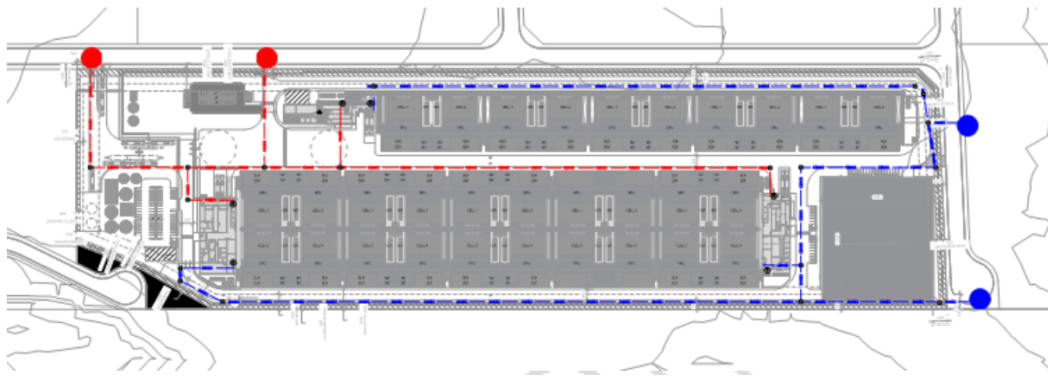

Figure 16 Proposed Telecom Connection Strategy
Four (4) entry points are proposed for the site, each separated by a minimum of 20m to ensure path diversity, as shown in Figure 16. These entry points are separate to the 6 x 100mm diameter telecom conduits within the wider estate.